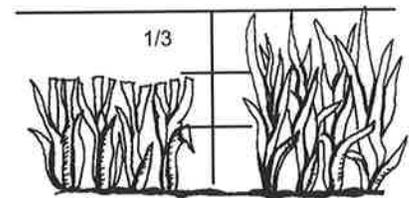

Figure 2-2. Mowing should remove only one-third of the grass blade.
- Mow often enough so that you remove no more than one-third of the grass blade (Figure 2-2). If the height after mowing should be 2 inches, then mow before the turf reaches 3 inches.